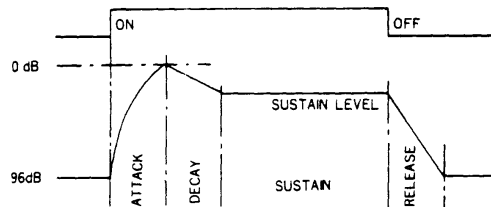

Fig. 3-2 Envelope waveform
The envelope generator (EG) is controlled by attack, decay, and release rates, and the sustain and total levels, to set the shifting of tone color and sound volume. It provides a dynamic range of 96 dB (at a resolution of 0.1875 dB). EG data is expressed by logarithmic values for the amount of decay. Figure 3-2 shows a typical waveform characterized by the exponential shifting at attack time and the linear shifting of other portions. The waveform shows the shifting from attack to decay when the level reaches 0 dB, and the shifting from decay to sustain when the level decays to the sustain level. The release starts at Key-OFF. Sound effects are produced by adding the specified data for total level, level key scale, and amplitude modulation to EG data, which can be used to change the envelope waveform.